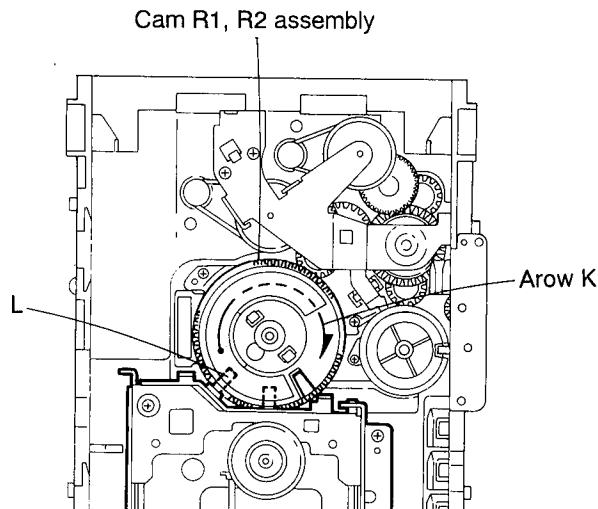

Fig. 2-17
■ Removing the CD mechanism (See Figs. 2-17 and 2-18)
1. For dismounting only the CD mechanism without removing the CD mechanism assembly, align the shaft (L) of the CD mechanism assembly to the position shown in Fig. 2-17 while turning the cam R1 and R2 assembly in the arrow direction (K).